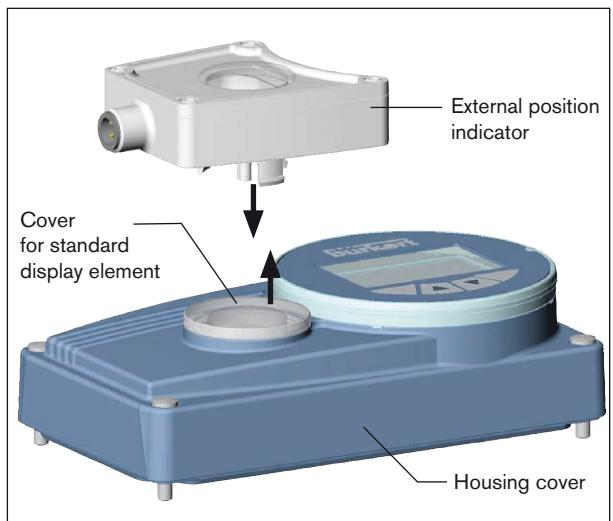

Fig. 2: Connecting external position indicator
- Gently pull the cover of the standard position indicator out of the housing cover (see Fig. 2: ).
- Place the external position indicator in the round recess of the housing cover and press down until it engages (see Fig. 2: ).